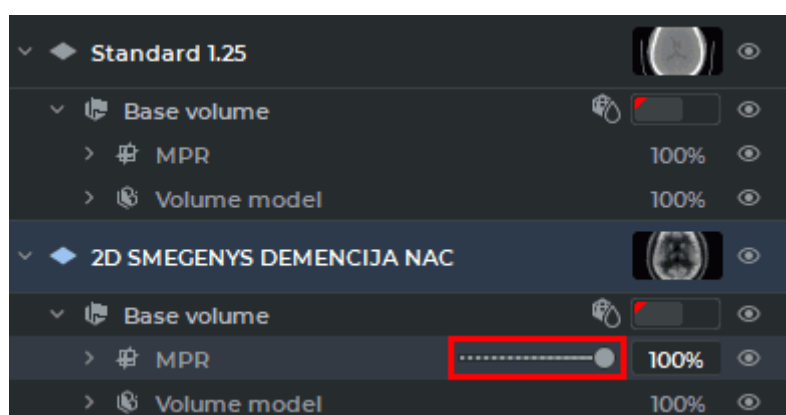

Figure 4.5: Control layer slider
1. Make all the layers transparent except the base one. To do this, move the transparency slider for the MPR windows of the corresponding layer to the left. The transparency slider is highlighted in red in Fig. 4.5.